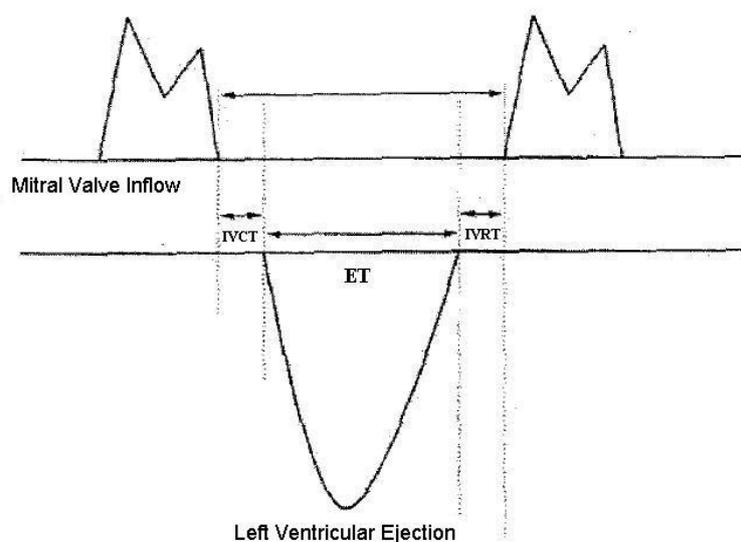

Fig. 8-84 TEI sketch map
- 2) Select **IVCT**. Refer to the **Time measurement** (see section **8.2.2.1** for notes on use) to continuously measure the IVCT, IVRT and ET values in the spectrogram, as shown in Fig. 8-84.